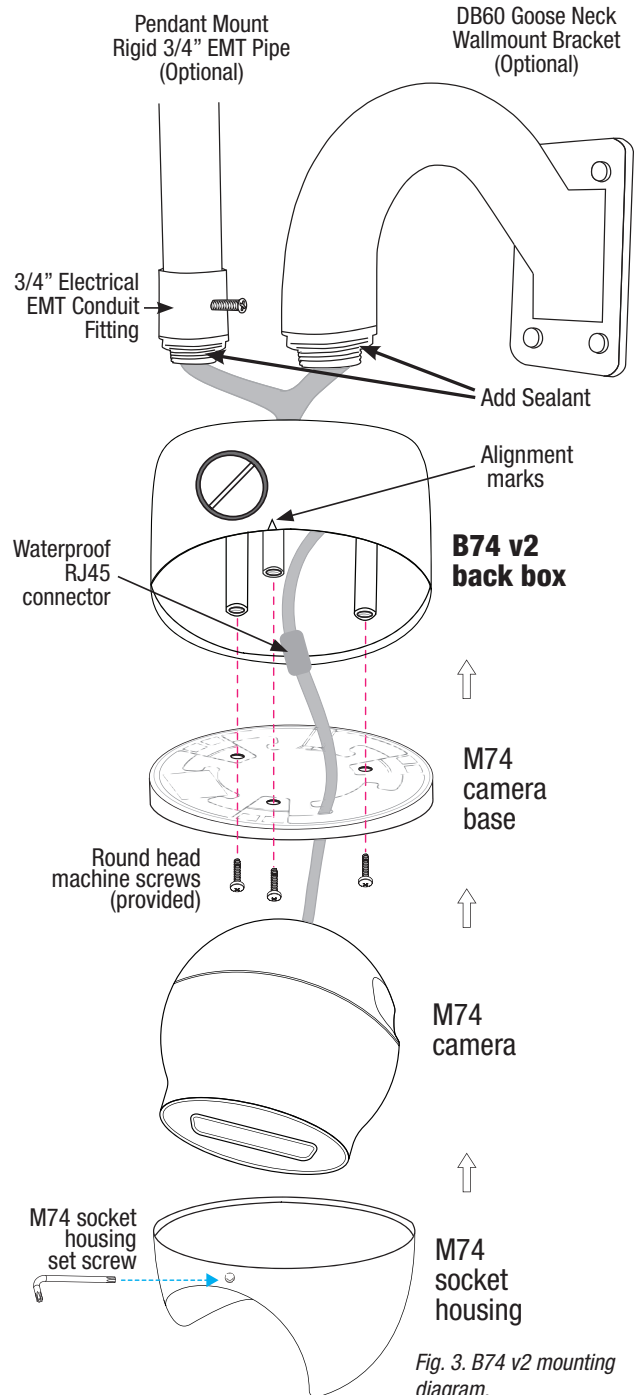

Fig. 3. B74 v2 mounting diagram.
- Apply sealant on all outdoor threads (refer to Fig. 3).
DB60 / Pendant Installation (Fig. 3)